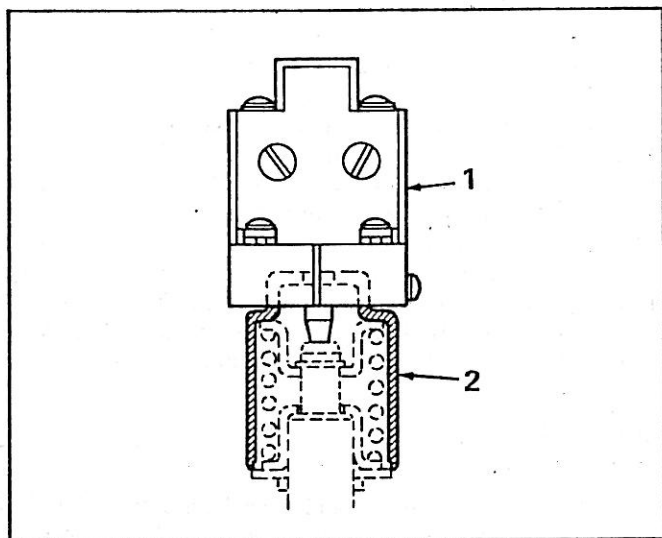

Figure 7. Electric Switch Installation
4. **ELECTRIC SWITCH.** (See Figure 7) A special electric switch is available for installation on the control valve. The switch is a single pole, double throw, double break type. The switch plunger contacts the end of the valve spool and electrical contact is made by pushing or pulling the spool to a power position. Refer to parts list for part numbers.